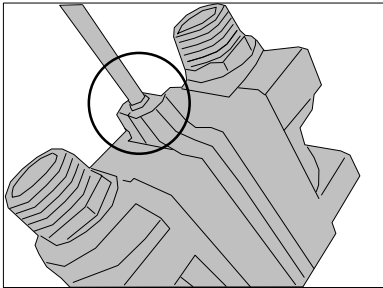

FIG. 3
1. Unscrew the front nut (1) and insert the cable (4) through the slot cable support bracket. See pedal instructions for more details and exact slot location. The rear nut (3) remains at the end of the thread (2). Adjust cable holder (2) for proper pedal operation and secure it's position with nuts (1) and (3). Use 3/32 wrench for tightening nuts (M5x0.8mm).
2. Verify that the actuating cable is inside the valve recepticle; see Fig.3
3. Insert cable end T-bar (5) into the pedal lever (see instruction for pedal)